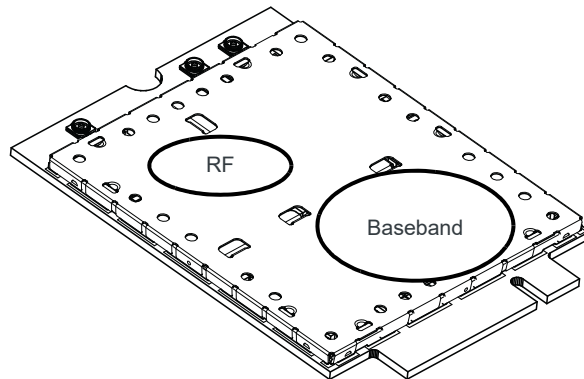

Figure 6-1: Shield Locations (Top View)
- Monitor temperature at all shield locations. Attach thermocouples to the areas indicated in Figure 6-1 on page 54 (RF, Baseband).